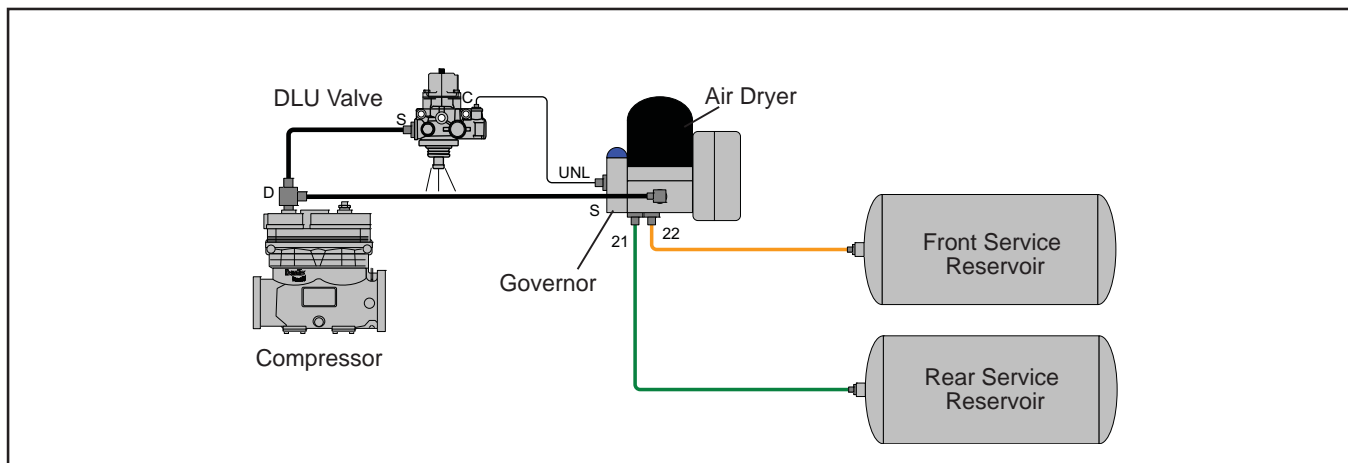

FIGURE 6 - TYPICAL BENDIX® 720cc (DLU) TWIN CYLINDER COMPRESSOR AIR CHARGING SYSTEM
This Bendix® 720cc twin cylinder compressor is a “discharge line unloader” (DLU)-style compressor. The compressor pumps continuously, unlike some compressor designs which use an “unloader” mechanism in the compressor head to switch from a pumping mode to a non-pumping mode. With a DLU-style compressor, the control of air delivery to the vehicle’s air system is managed by using a separate discharge line unloader valve mounted in parallel with a turbo cut-off-style of air dryer (see Figure 6).
COMPRESSOR AND AIR DRYER SYSTEM (REFER TO FIGURE 6)
Note: The Bendix® 720cc (DLU)-style twin cylinder compressor does not contain components to unload the compressor. Therefore, the compressor pumps continuously. In most systems that utilize an air dryer, the governor and DLU-style air dryer are used to unload the system (e.g. air is not being delivered to the brake system reservoirs). When system unloading occurs, air from the compressor will typically flow out the exhaust port of the air dryer. *Refer to Figure 6.*
1. Make certain the unloader system lines (illustrated in Figure 6) are connected and leak free.